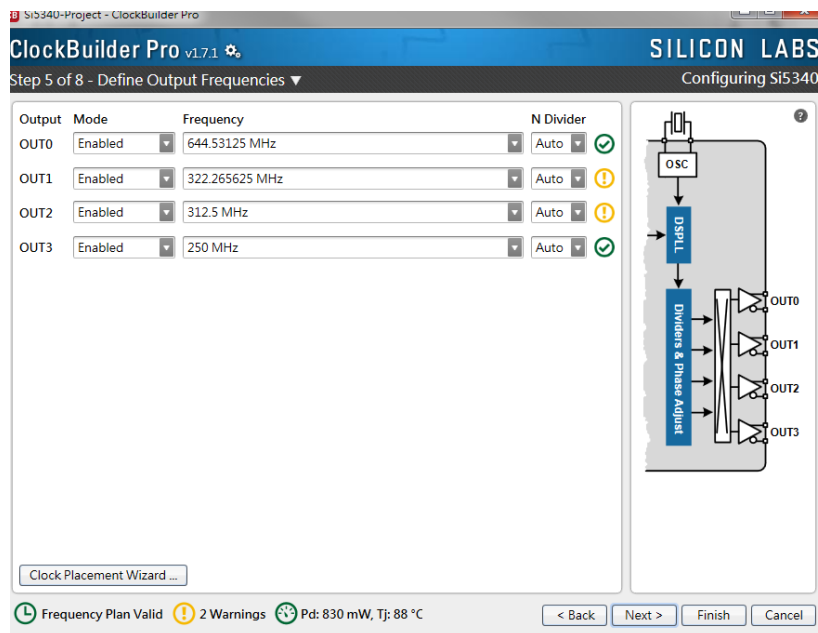

Figure 5-4 Define Output Clock Frequencies on ClockBuilder Pro Wizard
2. After the installation, select Si5340, and configure the input frequency and output frequency as shown in **Figure 5-4**.